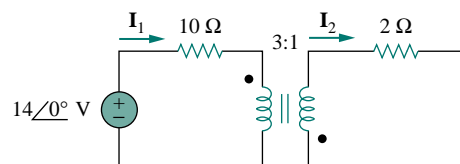

Figure 13.96 For Prob. 13.29.
13.29 Determine I_1 and I_2 in the circuit of Fig. 13.96.